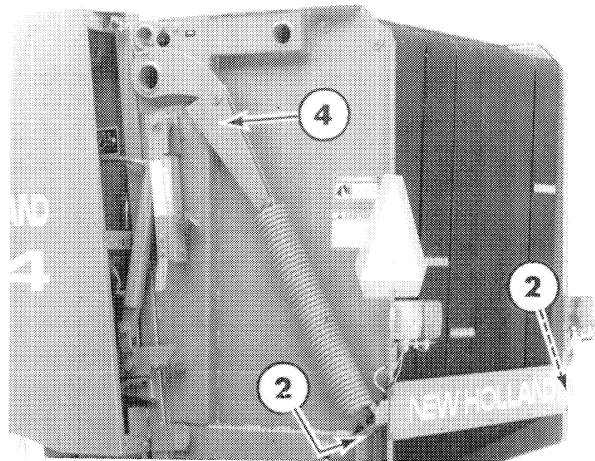

Figure 7-51
7. Remove the upper clevis pin at 4, Figure 7-51, on each side to remove the spring and plate assemblies.